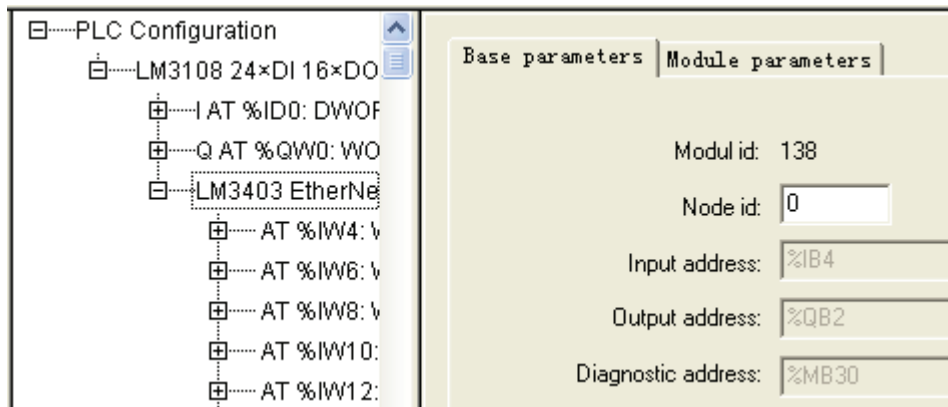

Figure 10-5-5
- The Address in Ethernet module should be consistent with node id in figure 10-5-5, the data A, B sent to PLC by PC are stored in %IW4, %IW6 and data C is stored in %IX8.0.